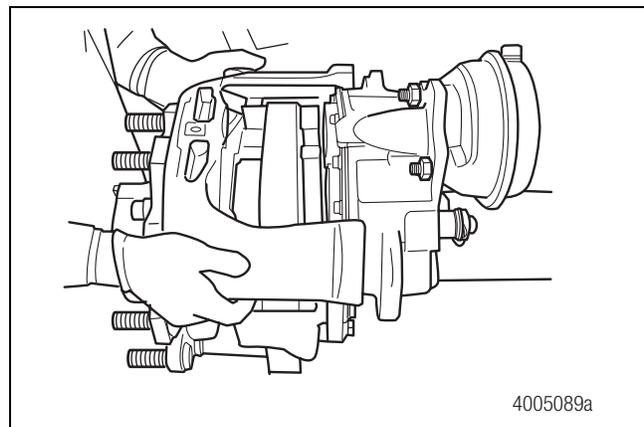

Figure 5.17
- Carefully remove the bridge. Figure 5.17.